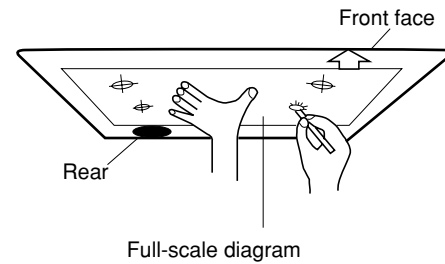

Fig. 3-17
- (1) Place the full-scale diagram (supplied) on the ceiling at the spot where you want to install the indoor unit. Use a pencil to mark the drill holes. Refer to Table 3-1 and Figs. 3-17 and 3-19.
- (1) When placing the unit inside the ceiling, determine the pitch of the suspension bolts using the supplied full-scale installation diagram. (Fig. 3-17)